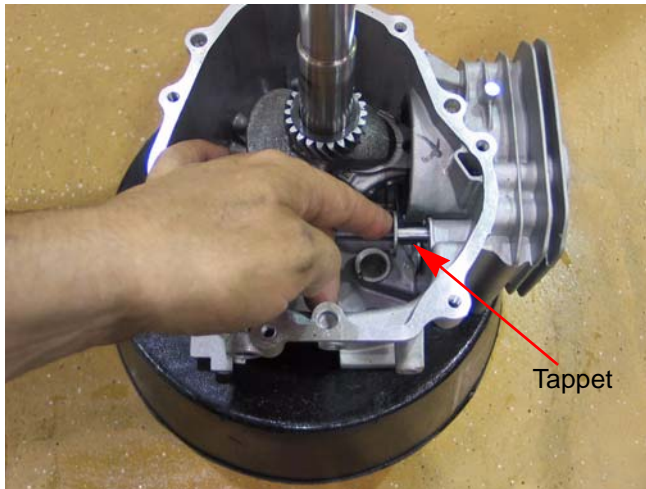

Figure 10.26
5. Install the valve tappets. See Figure 10.26.